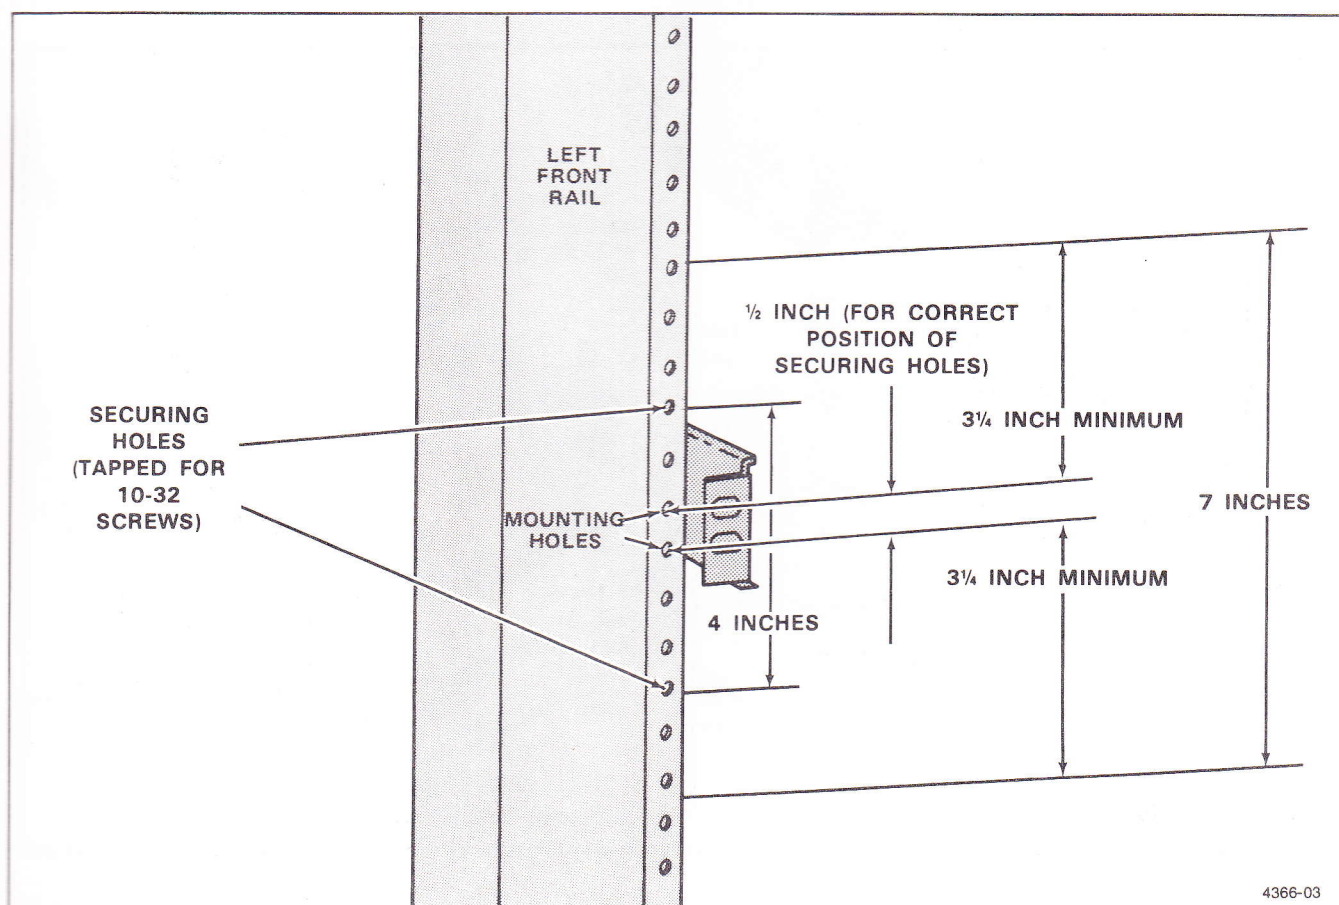

Figure 3. Locating mounting holes for the stationary sections.
1. Select the appropriate front-rail mounting holes on the equipment rack cabinet, verifying the 7-inch (178 mm) vertical clearance requirements as shown in Figure 3.